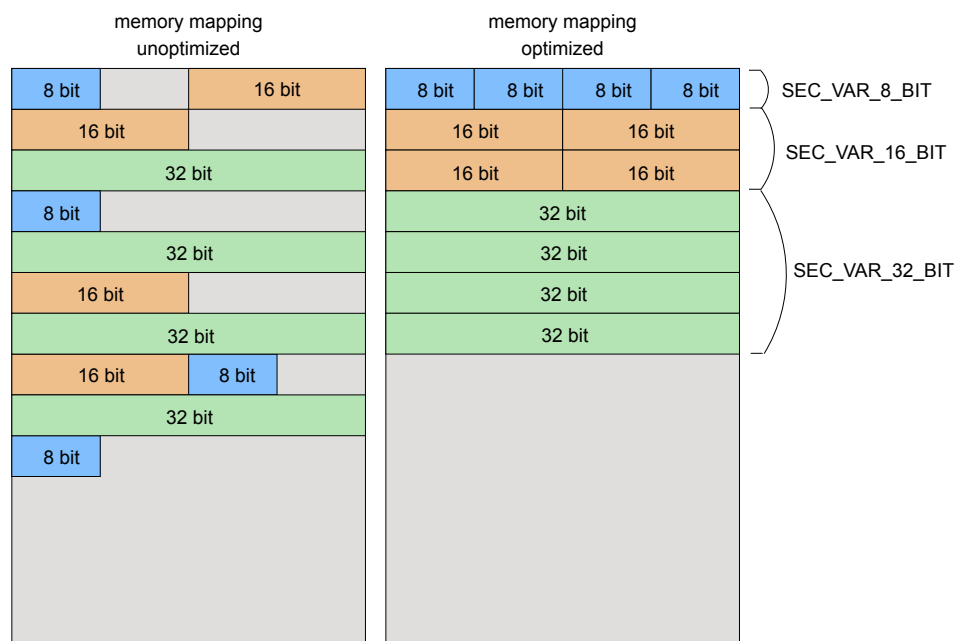

Figure 7.3. Optimized memory usage without gaps in memory
2. As data values are usually aligned according their size, you can avoid a waste of memory if you assign data with the same size to the same memory section. Figure 7.3, “Optimized memory usage without gaps in memory” shows how you can avoid gaps in the memory if you use different memory sections for data with different lengths.